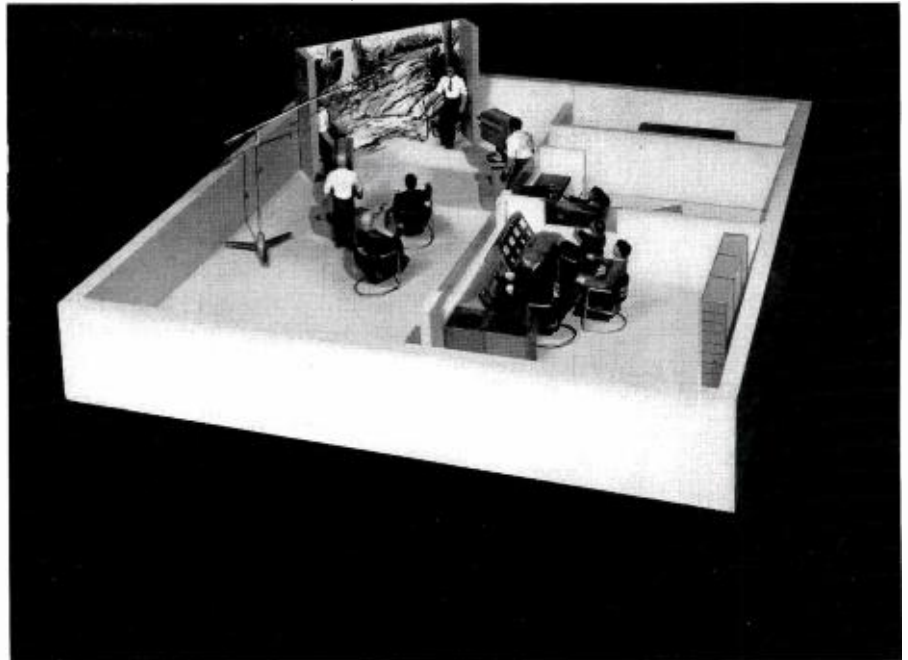

FIG. 11. Model layout showing a typical single “live talent” studio which can be added to the “Basic Buy” station at any later date.
A typical single studio might be arranged in the manner shown in Fig. 11. The facilities for a live-talent studio could be located as (1) a second floor of an existing building, (2) expansion of building at the same level, or (3) a studio remote from other facilities.